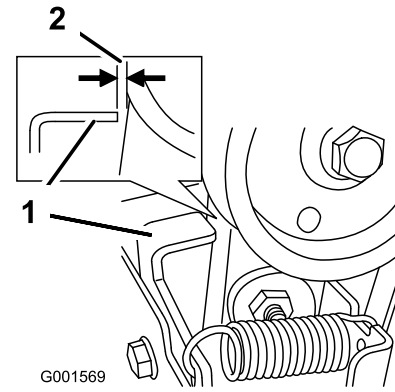

Figure 37
- With the auger/impeller lever disengaged, ensure that the gap between the auger clutch assembly and the tab is 1/16 inch (1.5 mm) (Figure 37).